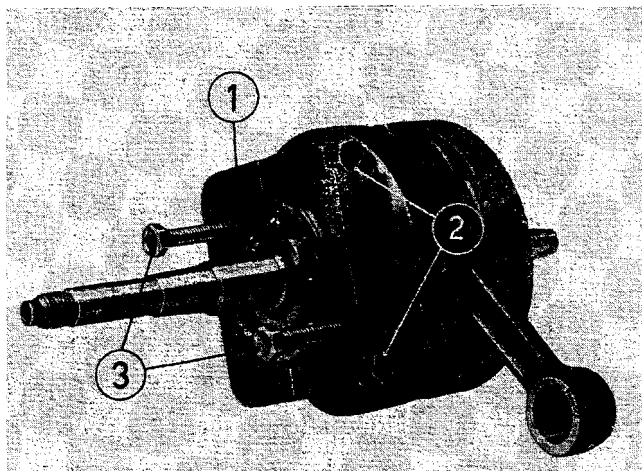

Fig. 30. Pulling the 6306 ball bearings from the crankshaft
The crankshaft main bearings 6306 C 4 f are pressed off from the crankshaft by the ball bearing puller 22-50.431 (1). The two halves of the tool are applied between bearing and crank disk of the crankshaft, compressed in a vice and pre-tensioned with 2 screws M 8 x 100 (2). By screwing in two other screws with hardened pin at the start of the thread (3), the bearings are pressed against the crank disks of the crankshaft (Fig. 30).